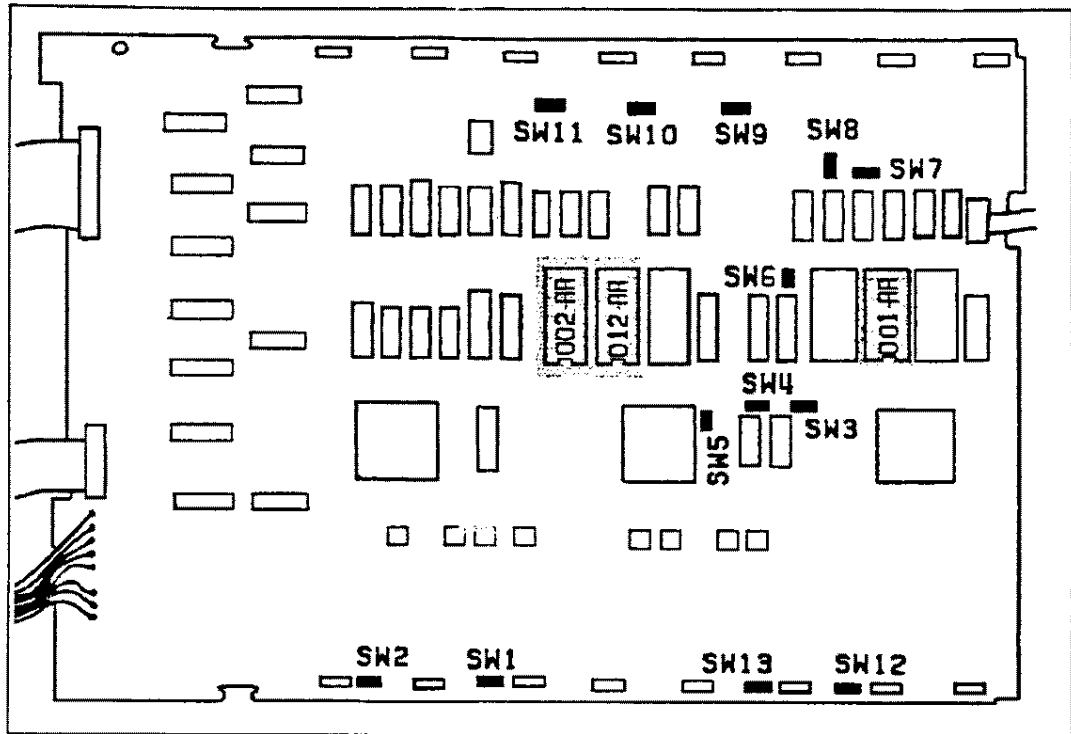

Figure 1-3 Locating the EPROM components (before 9039)
4. Use the EPROM extractor include in the kit, to remove the first EPROM component marked 001-"XX" and insert in place of it, the new issue component marked 001-"YY". (Where "XX" and "YY" are the issue references between "AA" and "ZZ"). Refer to figure 1-3 for recorders which date code is antecedent to 9039 and 1-4 for other units.
1. Softwares "AX" can be used ONLY on mother boards issue II (before 9039: see figure 1-3).
Softwares "BX" can be used as well on mother boards issues II or III (figures 1-3 or 1-4).
2. For mother boards issue II (figure 1-3)